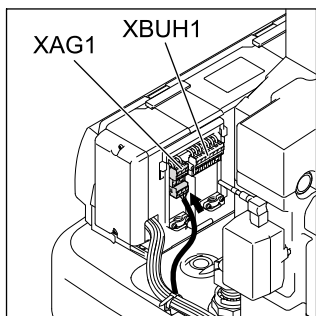
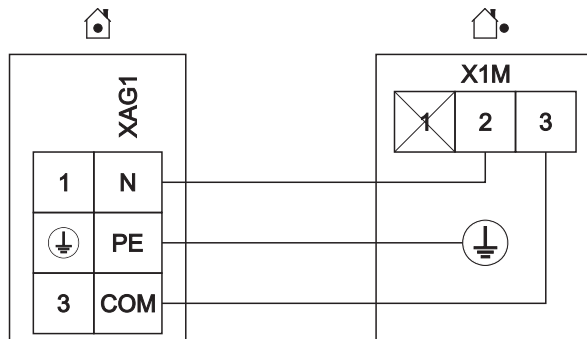

Fig. 3-20 Make the electrical connections to the rear of the housing (see section 3.4.1).
Fig. 3-22 Connection of exterior heat pump unit
- Connect the exterior heat pump unit to the terminal strip XAG1 (see fig. 3-20, fig. 3-22).